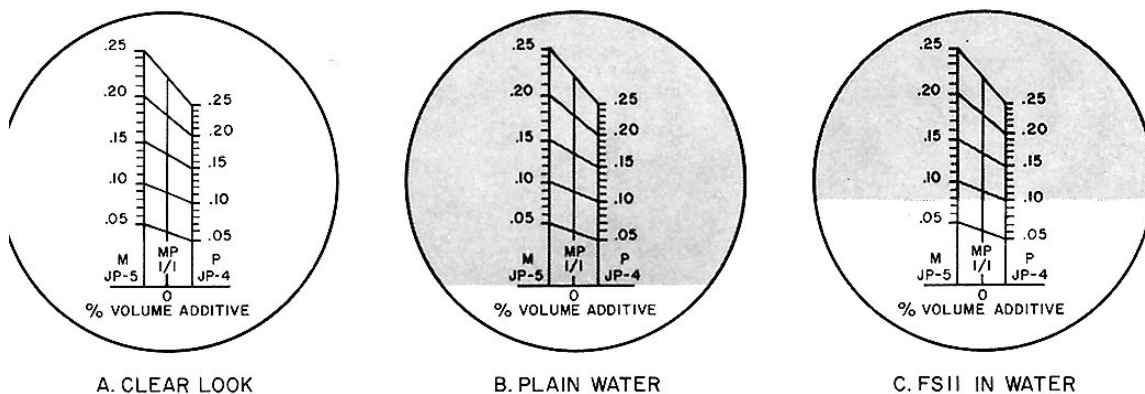

Figure 3-13.—Views through a refractometer.
until you read zero, you have made the refractometer ready to compare the FSII in the fuel to the scale inside the refractometer (fig. 3-13),
11. Open the hinged plastic cover and place two or three drops of liquid from the funnel on the window. Close the cover. Look through the eyepiece and read the point where the shadow line is on the scale. This gives you the percentage of FSII by volume. Make a log entry of your finding. Your readings should read two digits to the right of the decimal point: for example, .08, .04, .06, etc. See figure 3-13.